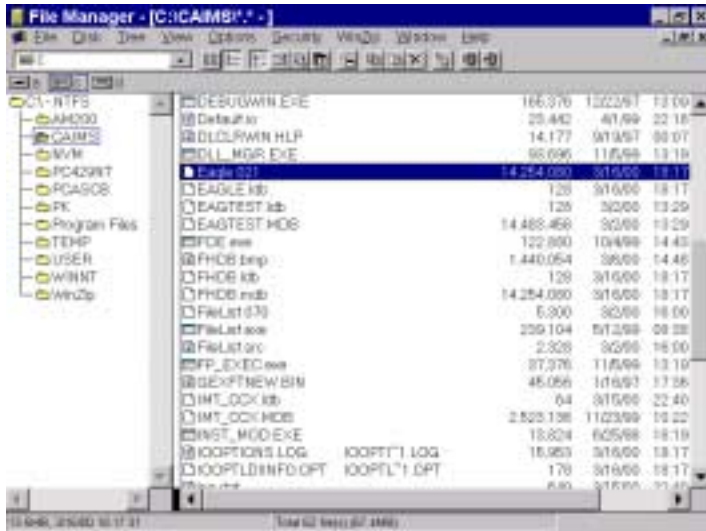

Figure 2 File Manager
3. In the File Manager, select C:\CAIMS directory and the existing LDI. (e.g. Eagle.021) See Figure 2.